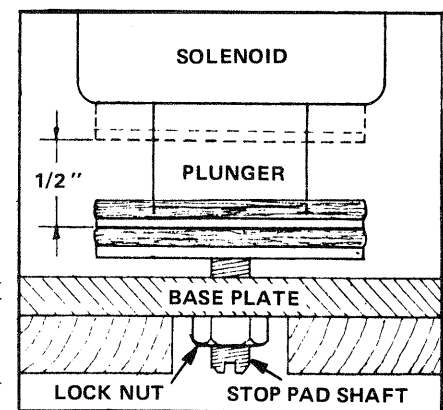

FIGURE 9-47 Stroke Measurement and Adjustment Parts.
- E. If the L.E.D. is lit and the Solenoid is actuating, check to see that its stroke is 1/2". (See FIGURE 9-47). If necessary, adjust the stroke of the Solenoid by loosening the Lock Nut on the Stop Pad Shaft and turning the Stop Pad CLOCKWISE to SHORTEN or COUNTER-CLOCKWISE to LENGTHEN the stroke of the Solenoid. (See FIGURE 9-47 and the CAUTION below), then proceed to Point 'F'.